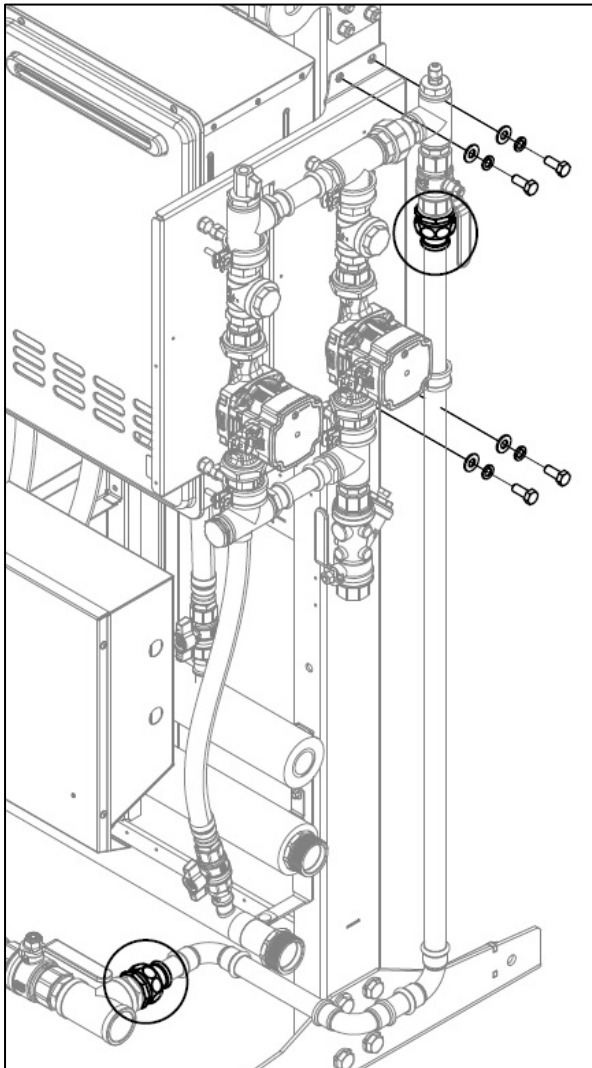

Figure 5
5. For systems with UPM 3 or UPM XL secondary pump assembly fitted, loosen two unions to remove the piping running from the outlet of the secondary pump assembly to the cold water supply tee fitting **Figure 5**. Undo the pipe clamps securing the piping. Disconnect the power connector on the pumps and carefully cut any cable ties holding the power cables in place. Disconnect the temperature sensor from the dry thermowell by undoing the cable gland and cut any cable ties holding the sensor cable in place. The secondary pump assembly can now be removed by unscrewing four bolts securing the pump bracket to the frame upright **Figure 5**.